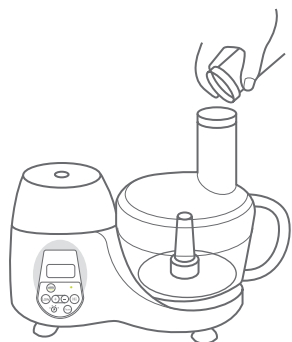

Fig. 11
1. The throat can be used to add liquid and solid ingredients. (Fig.11)